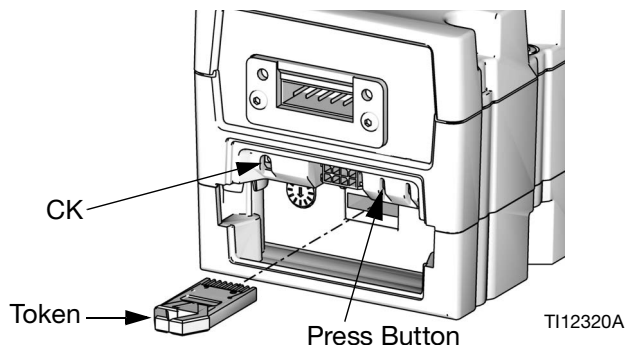

FIG. 52: Insert Token
4. Press and hold the button shown in FIG. 52 for ~1 second, then release. The red indicator light (CK) will flash until new software is completely loaded.